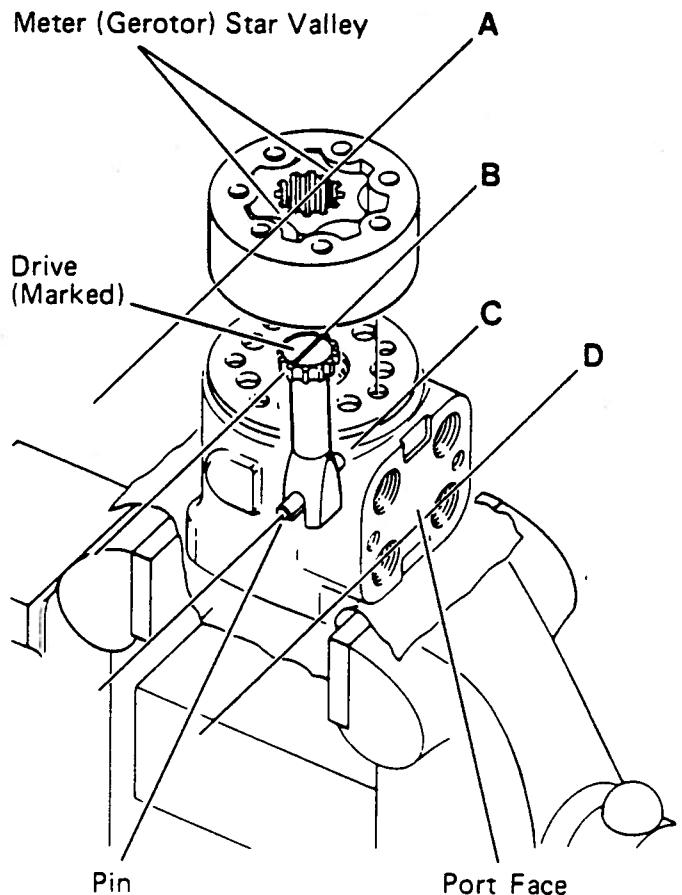

Figure 8-1. Drive, Gear Set, and Housing Alignment
To assure proper alignment, mark drive (8) as shown in figure 8-1. Note relationship between slotted end of drive to splined end of drive when marking.
y. Install seal (6) on gear set (4).
z. With seal side of gear set toward spacer plate, align star valleys (ref A) on drive (ref B). Note the parallel relationship of reference lines A, B, C, and D, figure 8-1. Align bolt holes without disengaging gear set from drive.